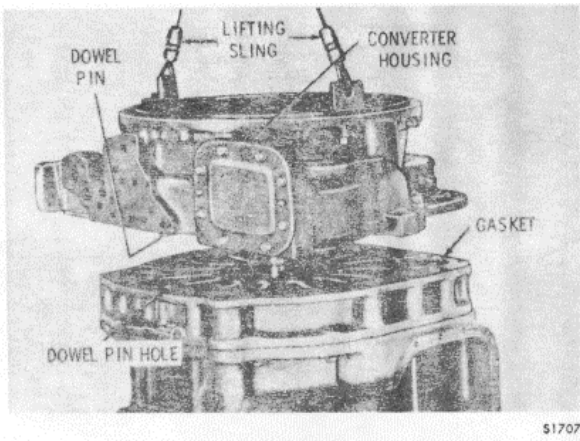

Figure 15-171. Installing Converter Housing onto Retarder Housing
1. Attach a two-strand lifting sling to the converter housing (Figure 15-171). Install a gasket onto the retarder housing. Lower the converter housing, aligning dowel pins in the